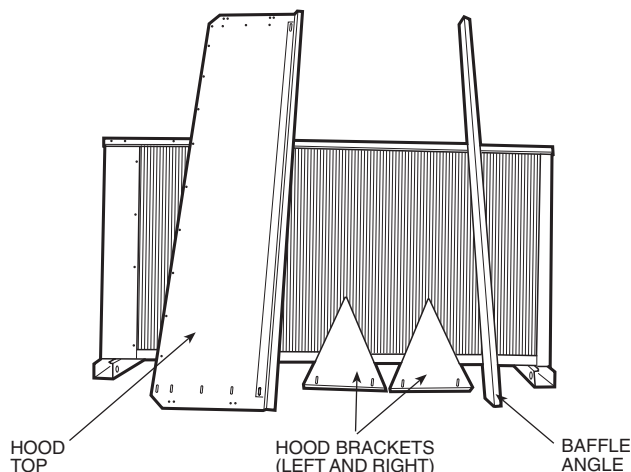

Fig. 1 — Hood Components
1. Identify parts, see Fig. 1 and Table 1.